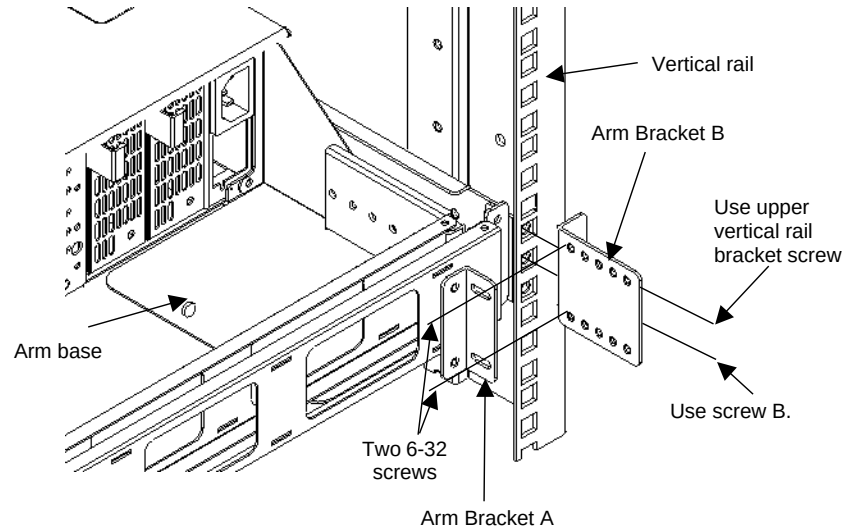

Figure 2-16. Installing Arm Bracket A and Arm Bracket B.
3. Arm Bracket A has four holes, two of which are elongated. Using the elongated holes in Arm Bracket A, attach Arm Bracket A onto Arm Bracket B using two 6-32 screws. Refer to Figure 2-16.